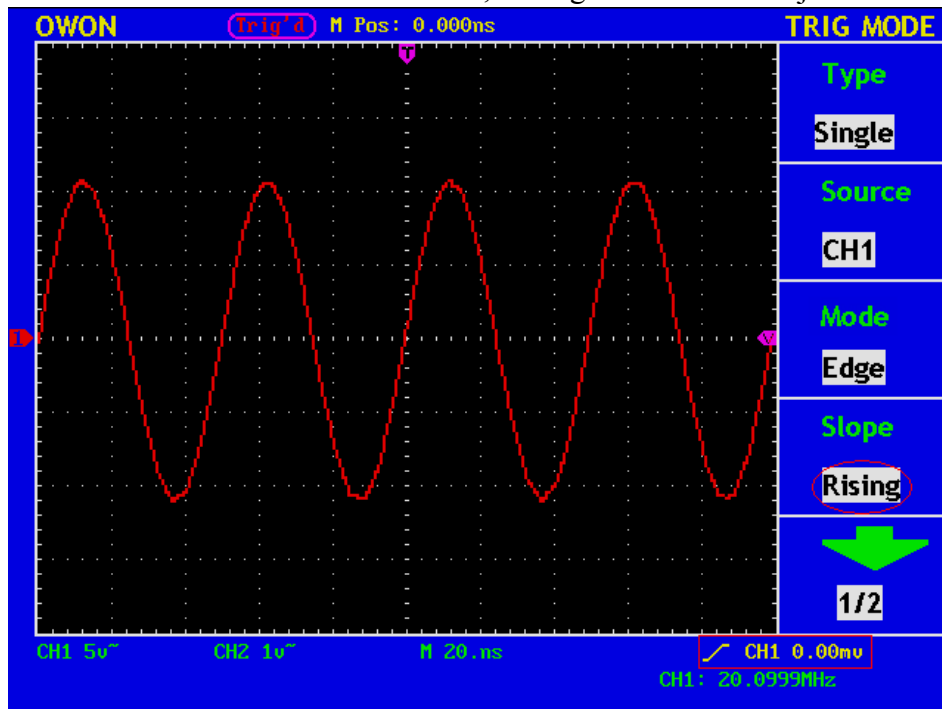

Fig. 45 Edge trigger (Rising Wave, the first menu)
- 5、 Press “F4” to choose slope as “Rising”. Display as Fig.45